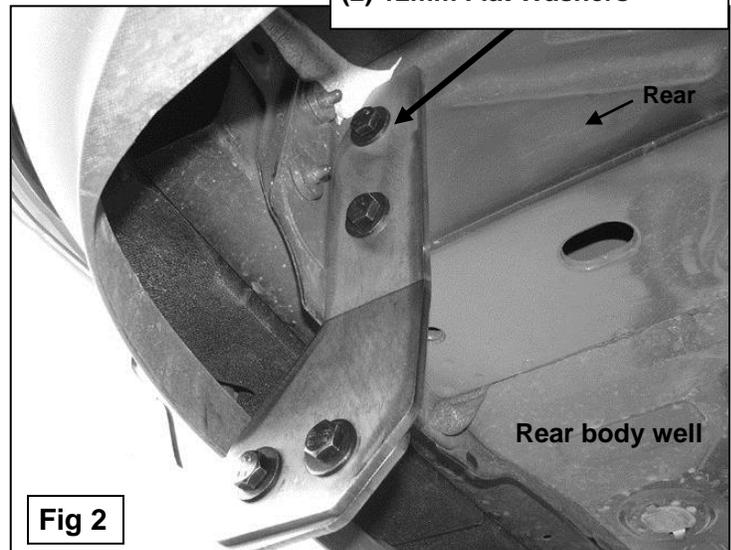

Fig 2
3. Select the passenger side Frame Bracket and position it up to the mounting location. Secure the Frame Bracket to the rear well with the included (2) 12mm x 30mm Hex Bolts, (2) 12mm Lock Washers and (2) 12mm Flat Washers, **(Figure 2)**. Snug but do not tighten hardware at this time. **NOTE:** The slight bend in the Frame Bracket will go toward the outside of the vehicle when properly installed.
4. Select the passenger side Mounting Bracket and attach it to the inside of the previously installed Frame Bracket with the included (2) 12mm x 35mm Hex Bolts, (4) 12mm Flat Washers and (2) 12mm Nylon Lock Nuts, **(Figure 2)**. Snug but do not tighten hardware.